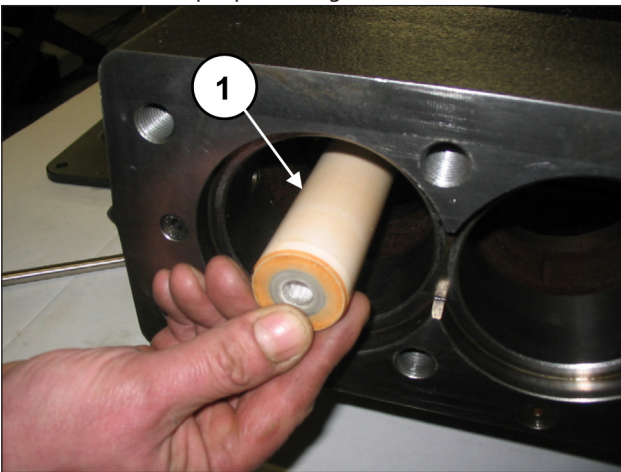
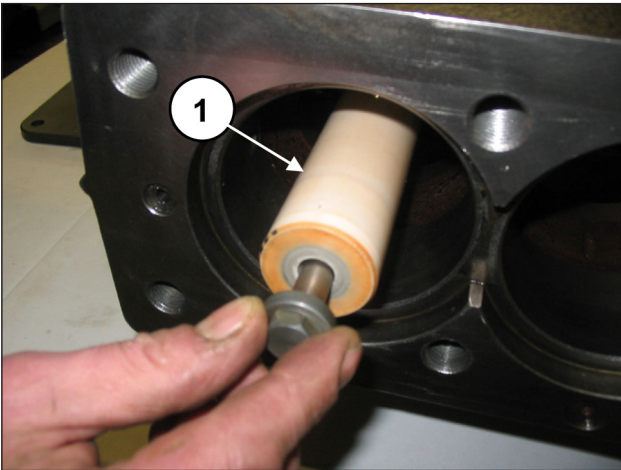

Fig. 157
Fig. 158
Install the pistons on their respective guides (pos. ①, Fig. 157) and fasten them as per pos. ①, Fig. 158.